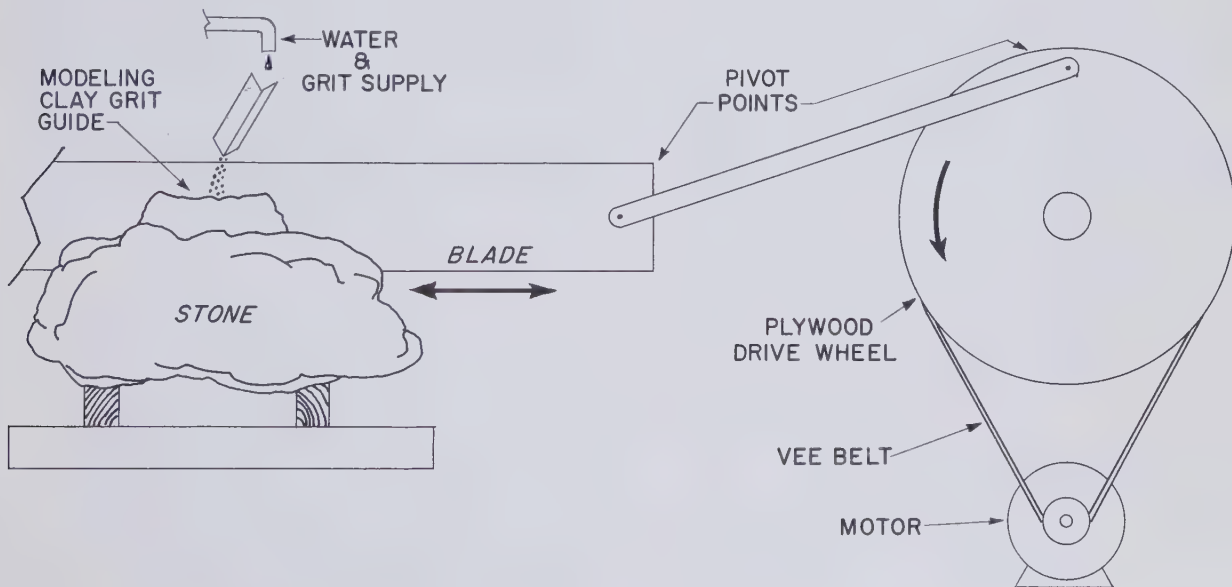

Fig. 26 Abrasive grit hack saw for stone. Very large stone sections can be cut with this type of saw.
**Straight Blade Mud Saws.** The straight blade or hack saw type is easier to make and less messy to use than the circular type. There is almost no limit to size and the author knows of one machine made by amateurs which runs a blade about 6 feet in length and about 6 inches in depth. Figure 26 shows one scheme for such a saw, particularly a very large one. Since the blade is likely to wobble if it is thin, it may be necessary to support it along the sides with uprights of wood. Smaller models support the blade in a frame similar to the old-fashioned buck saw, that is, the blade is stretched between posts with a rod and turn-buckle, and the entire frame supported between vertical guides as it strokes back and forth. Small saws use 18- to 20-gauge soft steel;
Grit and water must be fed constantly and one arrangement is shown in Figure 26. A metal trough is rigged above the cut with a supply of grit. Water drips on the grit and washes a small but steady supply into the cut. The latter is surrounded with a miniature crater of modeling clay which funnels the grit-water mixture to the cut. Containers can be placed on each end of the cut to catch run-off, and the grit returned to the trough from time to time. The grit size used is 100 to 220.